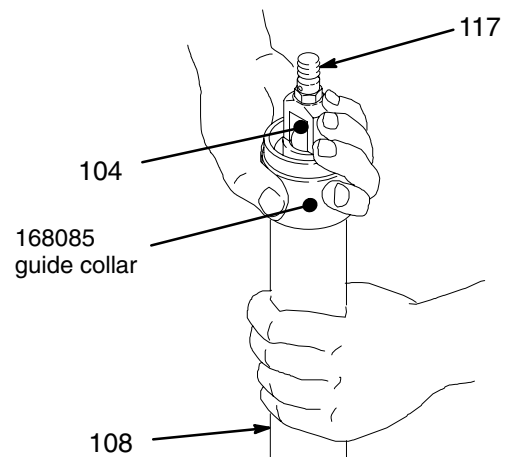

Fig. 14
22. Reinstall the fluid tube (45) and fittings (1). Torque the fittings to 25 to 35 ft-lb (34 to 48 N.m). See the **Parts Drawing** on page 18.
23. Pull the displacement rod (34) in and out to be sure it moves easily
24. Grease the inside top of the displacement cylinder (108) opening. Thread the guide collar, Part No. 168085, onto the displacement cylinder. Slide the packing assembly into the collar/cylinder. See Fig. 14. Remove the guide collar.
7. Grease the inside top of the displacement cylinder (108) opening. Thread the guide collar, Part No. 168085, onto the displacement cylinder. Slide the packing assembly into the collar/cylinder. See Fig. 14. Remove the guide collar.